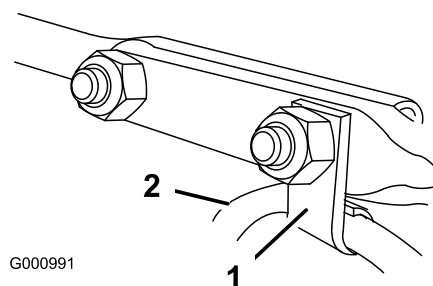

Figure 8
15. Insert the cable clip that supports the deflector cable on the forward bolt, and secure the bolts with the locknuts provided (Figure 8).